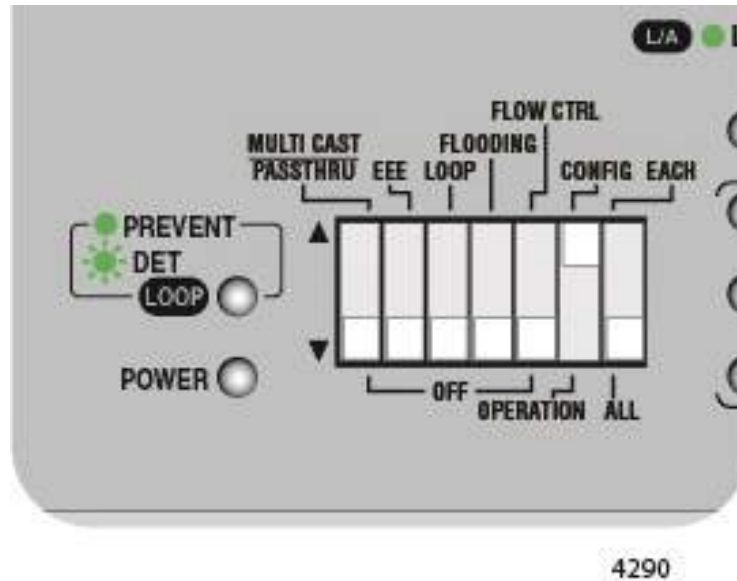

Figure 53. DIP Switch Settings for Configuring All Ports
2. Set DIP switch # 7 (ALL/EACH) to the DOWN (ALL) position as shown in Figure 53.
All of the port SPD/LOOP LEDs flash indicating that all of the ports are ready to be configured. See Figure 53 on page 85.
1. Set DIP switch # 6 (OPERATION/CONFIG) to the UP (CONFIG) position. See Figure 53 on page 85.